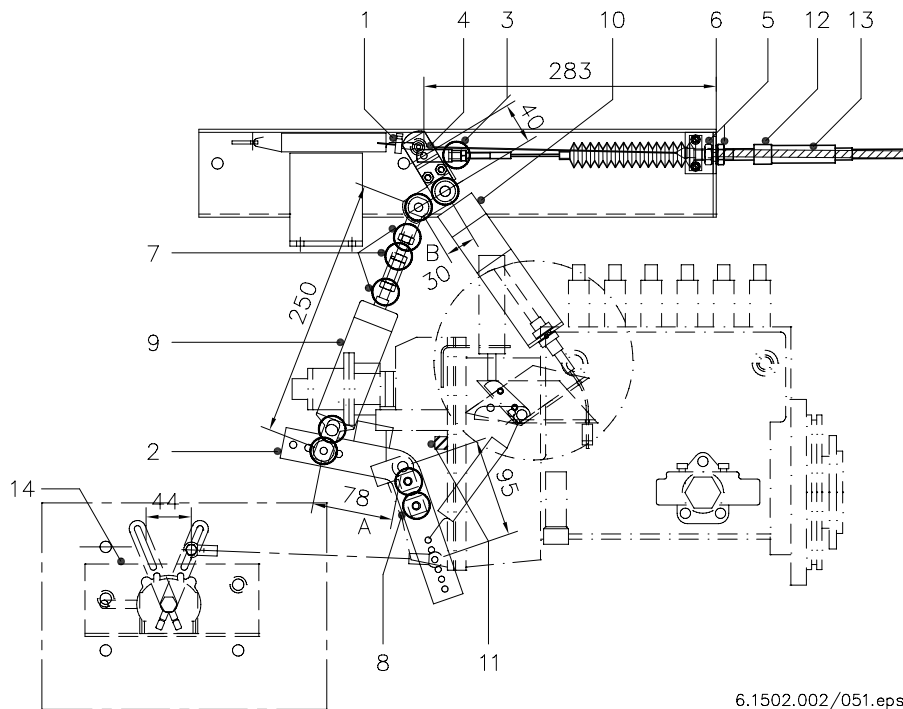

Figure 10 Fitting and adjusting the throttle control at the rear for MAN Euro 1 type engines
1. Before the throttle cable is fitted, the distance between the top of lever {9} and the attachment point of the throttle cable must be checked. This distance must be 288 mm; see Figure 10. The distance can be adjusted by means of the four bolts 1 to 4 on support {7}. This is the basic adjustment.
2. Fit the throttle cable as indicated in Figure 10. Position both nuts {5} approximately in the middle of the cable, so that there will be room left at both sides to adjust the cable.